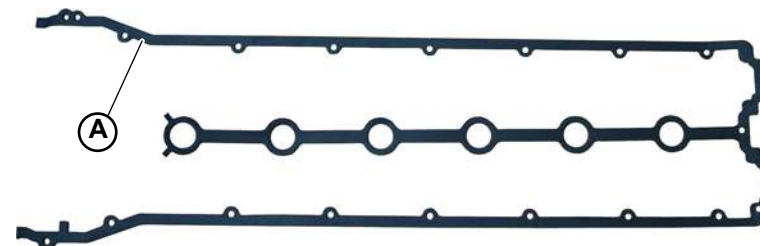

Fig.1
1. Position the head cover gasket (**A-Fig.1**).